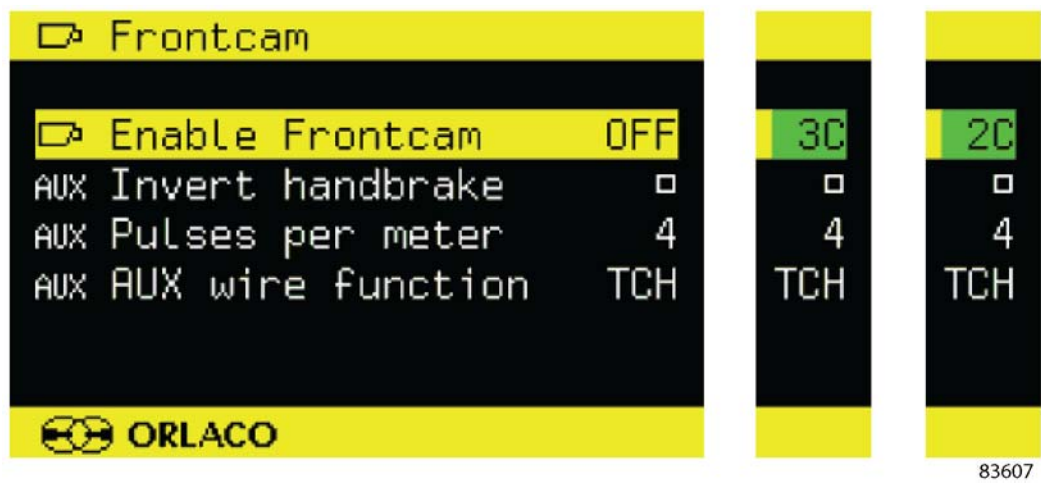

FIGURE 33-18.
5. Now Navigate the highlighted bar downward to the row named "Frontcam", then press the enter button. This will have a default setting screen similar to Figure 33-18. Set "Enable Frontcam" to OFF.